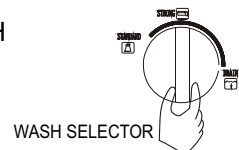

Figure 4
5. After washing, the buzzer will ring. Set the "WASH SELECTOR" at "DRAIN". (Figure 4).